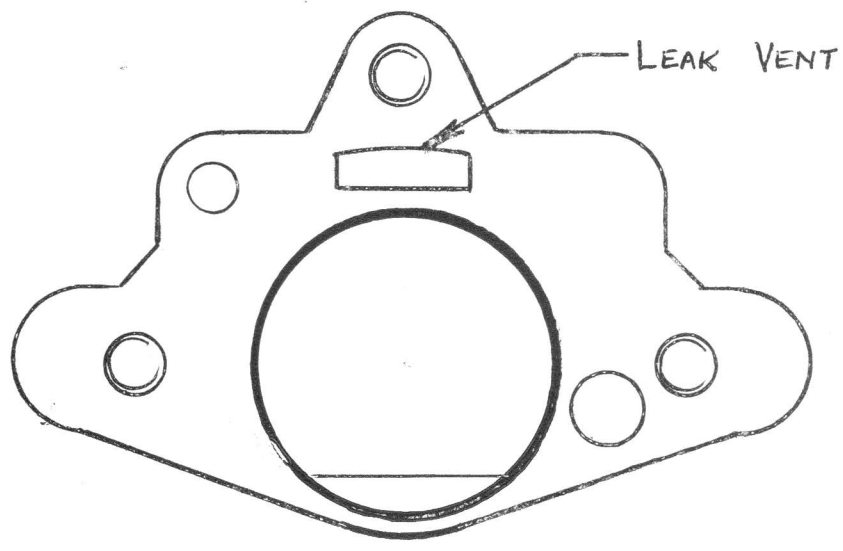

FIG. 1.
9. With the finger, block each leak vent (Fig.1) in turn and observe the drop in r.p.m. (This action enriches the mixture). Remove the damper assembly, insert the adjusting tool in the damper tube, and adjust the needle in each as required to achieve a similar action on each carburetter.